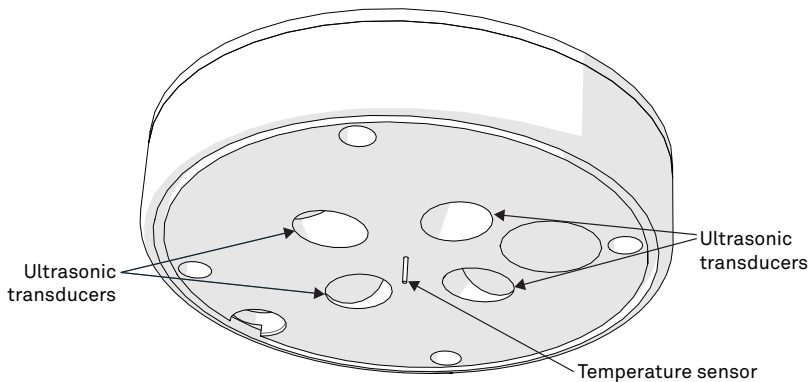

Figure 13 Temperature needle and ultrasonic transducers
1. Make sure nothing is obscuring the temperature sensor or the sonic transducers shown in Figure 13 (cobwebs, leaves, wasp nests, etc.).
- c. Ultrasonic transducer openings (Figure 13)
- **DO NOT** touch the temperature sensor needle (Figure 13).
- Avoid more than light pressure on the sonic transducers (Figure 13).
NOTE: Do not allow water to enter the ultrasonic sensors (Figure 13). Water may corrode the metal parts inside the sensors and ruin them. Do not touch the temperature sensor when cleaning because it is very delicate and can be damaged if pushed into the ATMOS 41 body.